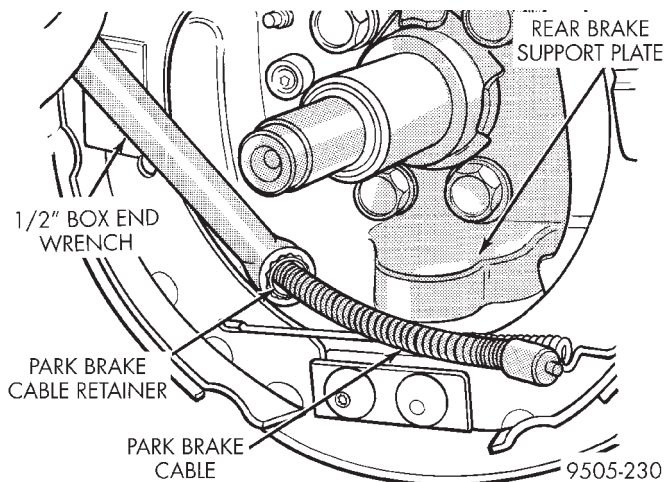

Fig. 158 Park Brake Cable Removal From Brake Support Plate
(22) Remove park brake cable (Fig. 158) from rear brake support plate. Park brake cable is removed
from brake support plate using a 1/2 in. wrench as shown in (Fig. 158) to compress locking tabs on park brake cable retainer.